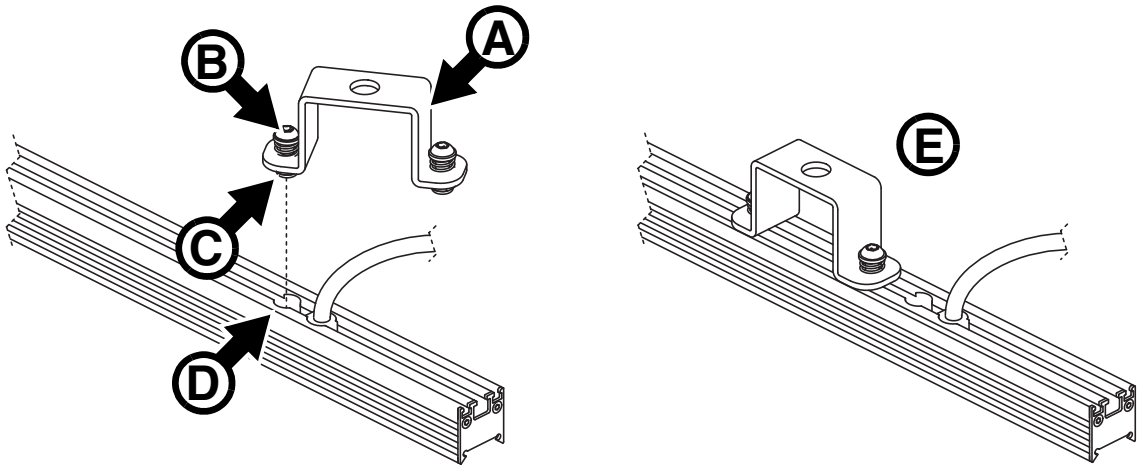

Figure 4: Installing a sliding bracket with spring-loaded fasteners
1. See Figure 4. Place the fixture with the LEDs facing downwards on a surface that will not scratch or damage the fixture. Push one of the spring-loaded mounting screws **B** on a bracket **A** down with your thumb so that the nut **C** on the screw is pushed down and away from the bracket.